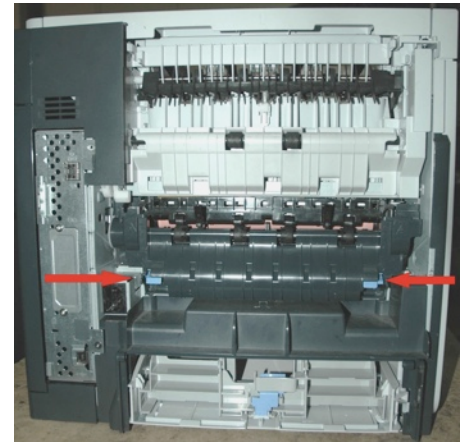

Fig. 1
- 4 To remove fuser, firmly grasp both sides of the fuser and push the blue levers upward to release the fuser and pull fuser out. (Fig. 1)